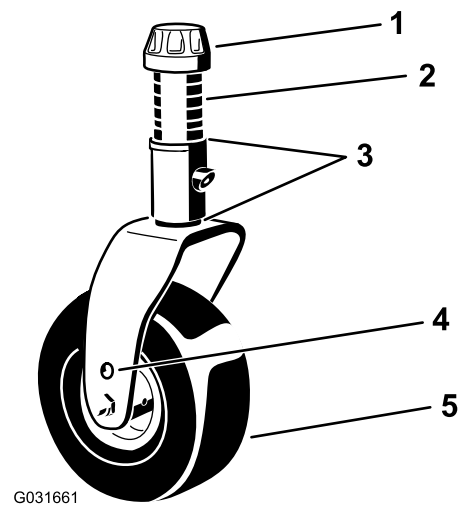
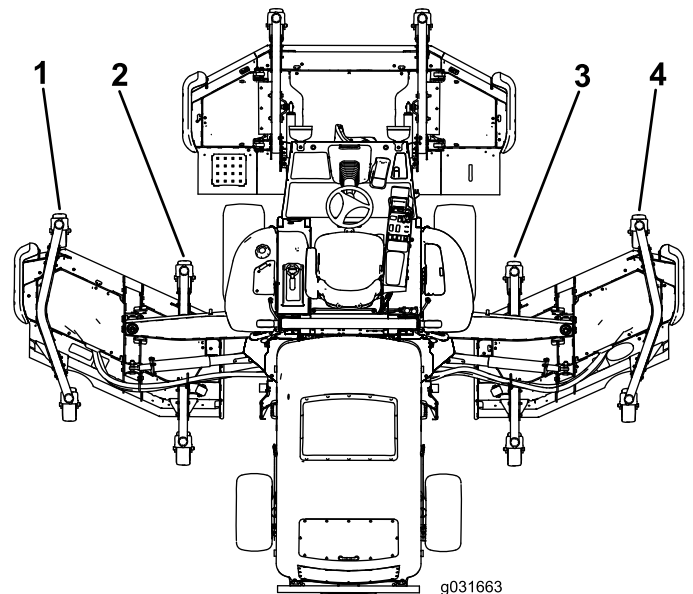

Figure 26
Figure 27
5. If the inside edge of the wing mower deck is too high relative to the outside edge of the front mower deck, remove 1 shim from the bottom of the front, inside caster arm on the wing mower deck (Figure 26 and Figure 27).
6. If the inside edge is still too high, remove an additional shim from the bottom of the front, inside caster arm of the wing mower deck and 1 shim from the front, outside caster arm of the wing mower deck (Figure 26 and Figure 27).
7. If the inside edge of the wing mower deck is too low relative to the outside edge of the front mower deck, add 1 shim (1/8 inch) to the bottom of the front, inside caster arm on the wing mower deck (Figure 26 and Figure 27).